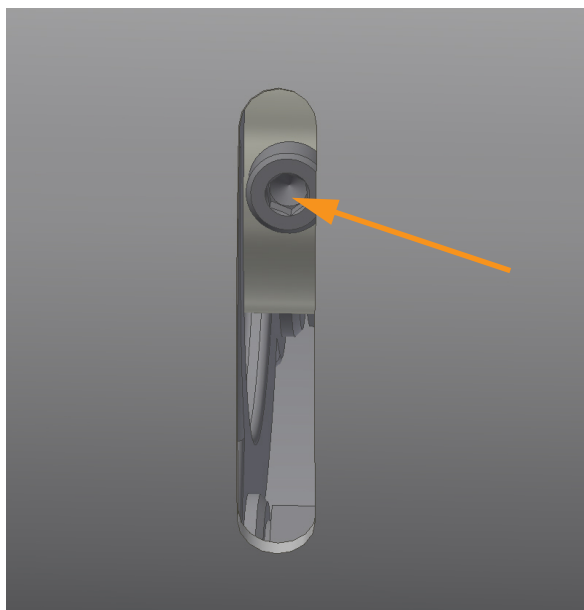

Fig. 9-33 Rotor fuse, drive side: Detail - cheese head screw with hexagon socket
5. Tighten → Fig. 9-33 "Rotor fuse, drive side: Detail - cheese head screw with hexagon socket" hexagon socket head cap screw.